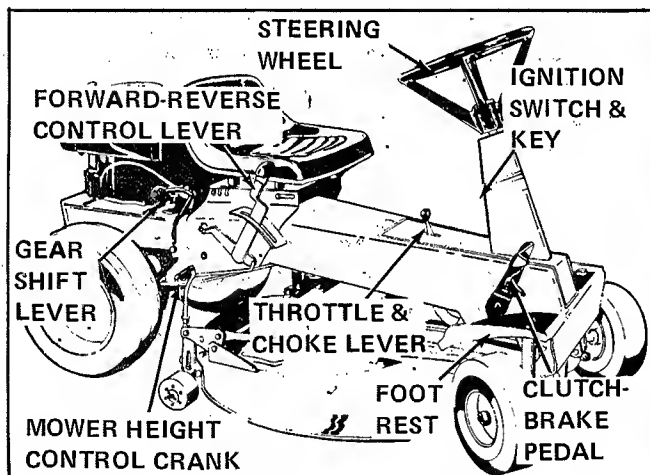
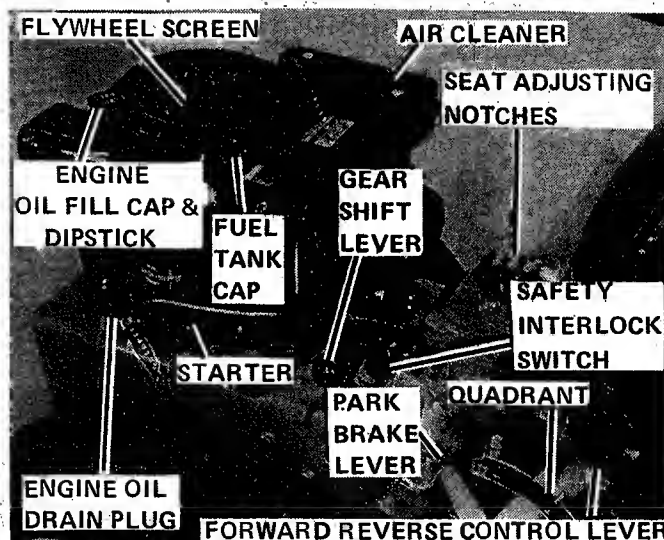

Figure 6.
Figure 7.
See Figure 6. Pushing the clutch-brake pedal forward first, loosens and disengages the transmission drive belts. Further forward motion of the pedal applies the brakes.
See Figure 6. The throttle and choke lever controls the engine speed from idle to full speed. Moving the lever farther forward past the "fast" position applies the choke for starting the engine. As soon as engine starts the lever should be pulled back to mid-range and engine allowed to warm up a few minutes before applying a load. When operating at full throttle be careful that the lever is not moved so far forward that the choke is partially closed.
See Figure 6. Pulling up on gear shift lever places the transmission in low range. Pushing down engages the high range gearing. Shift lever must be placed in neutral midway between high and low range to engage a safety interlock switch to permit starting the engine (Figure 7). To shift gears with engine running, either the clutch-brake pedal must be fully depressed, or the forward reverse control lever must be placed in neutral.
See Figure 6. The forward-reverse control lever operates the transmission shuttle clutch and permits starting and stopping the tractor in either forward or reverse direction without shifting gears or using the foot clutch. The shuttle clutch may be used for a short time to "inch" the tractor forward or backward, and to start and stop motion smoothly. IT MUST NOT be used as a speed change device. All continuous operation MUST be done in either fully forward or fully rearward position.
See Figure 6. The ignition switch must be turned to the "Start" position to actuate the starter. As soon as engine starts; let go of key and it will automatically return to "On". Turn key to "Off" to stop the engine.
See Figure 7. The parking brake lever, located under the right side of the seat, is pushed down to engage brake. Brake should be engaged when leaving the tractor unattended.
See Figure 6. The cutting height of the mower can be adjusted from 1-1/2 to 3-1/2 inches by rotating the height control crank. Turn clockwise to raise and counter-clockwise to lower.
b. Check engine oil level, (Figure 7), and add oil as required to maintain level up to full mark on dipstick.
c. Fill the fuel tank (Figure 7) with a good grade of regular gasoline. DO NOT use premium gasoline and DO NOT mix oil with gasoline.
STARTING (Figures 6, 7 and 8)
5. If the starter will not operate, turn ignition key to off and check that both the gear shift lever and mower PTO drive clutch are in neutral position and are actually actuating the safety interlock switches (Figures 7 and 8).